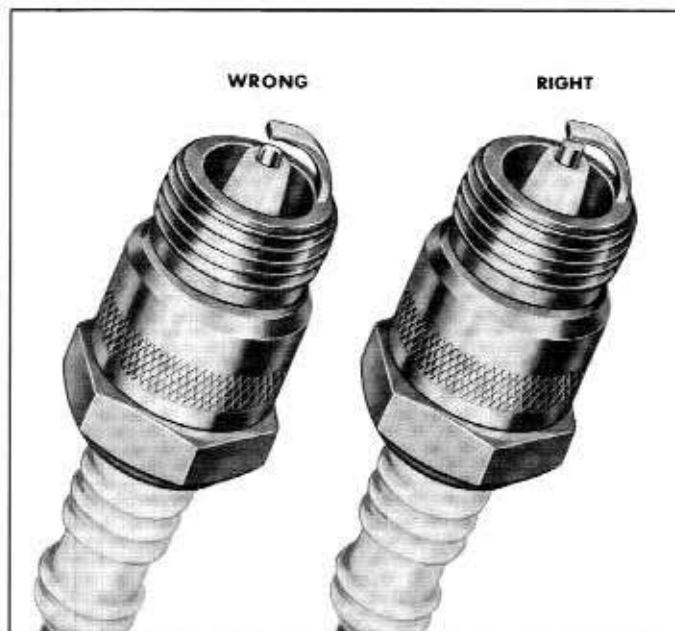

Fig. 9-41—File Ends of Electrodes Flat—(8M-7626)
6. File the end of the center electrode until it is flat. File the sparking areas of the ground electrode to obtain a flat parallel surface. See figure 9-41. Less voltage is required to fire the spark plug and the gap can be more accurately adjusted if the electrodes are flat. **If the ground electrode is filed too thin it may cause pre-ignition.**